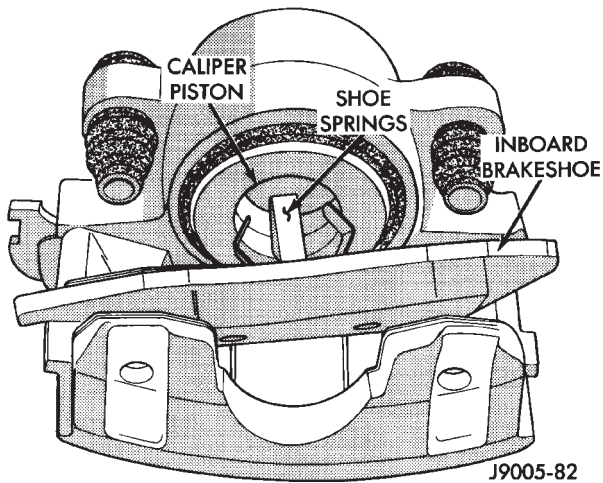
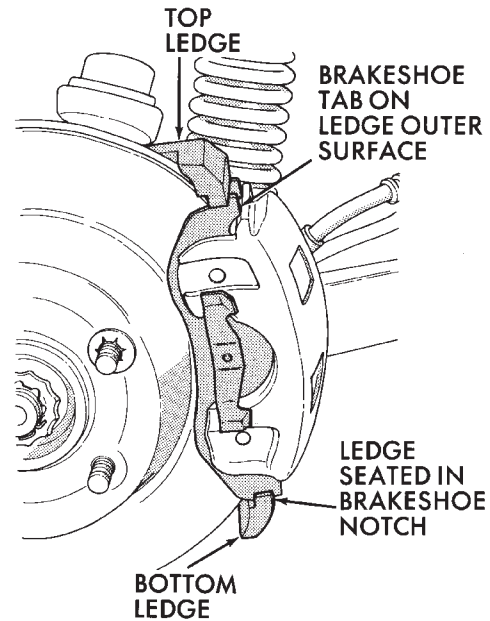

Fig. 11 Installing Inboard Brakeshoe
Fig. 13 Caliper Installation
(3) Keep new or original brakeshoes in sets. **Do not interchange them.**
(4) Install inboard shoe in caliper (Fig. 11). Be sure shoe retaining springs are fully seated in caliper piston.
(7) Install caliper. Position notches at lower end of brakeshoes on bottom mounting ledge (Fig. 13). Then install caliper over rotor and seat upper ends of brakeshoes on top mounting ledge (Fig. 11).
(Fig. 13). Then rotate caliper over rotor and seat notches at upper end of shoes on mounting ledge (Fig. 13).